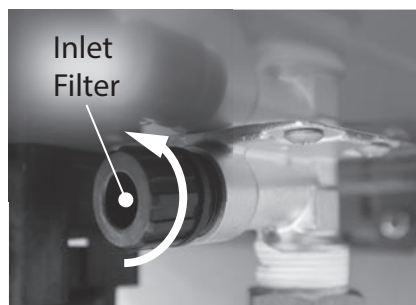

Figure 215 - Removing the inlet filter
- 8 Locate and remove the inlet filter as shown in Figure 215 to drain any residual water left in the system. Place a bucket or pan underneath inlet filter to collect water during removal.